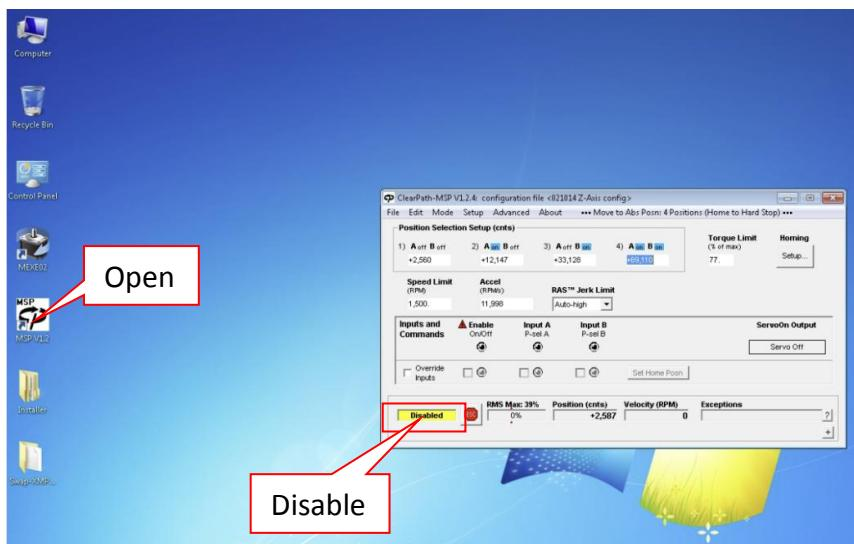

Figure 6 ClearPath MSP Software
4. Open “ClearPath MSP Software” & ensure motor status is showing “Disable” as shown in Figure 6.